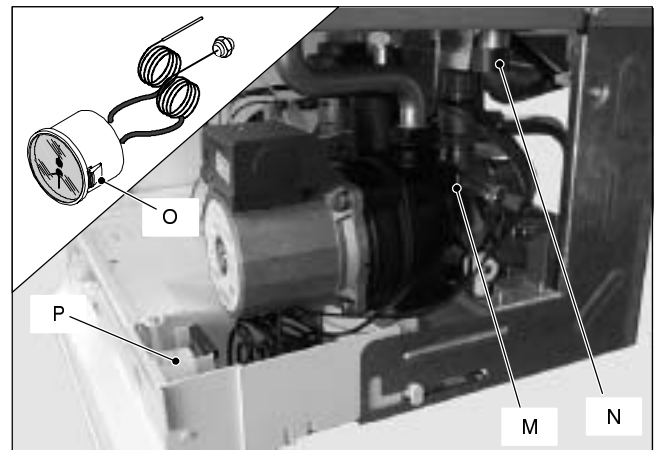

Fig. 55
- 2 Remove the fork *M* and the probe holder spring *N* (Fig. 55).